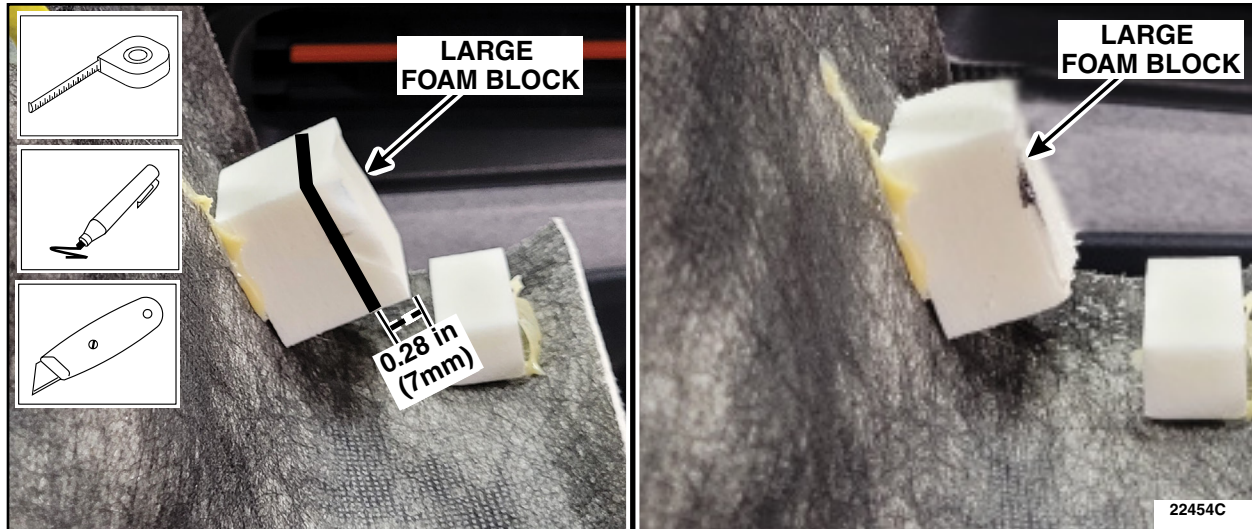

FIGURE 22
24. On both sides of the front of the headliner, locate the large foam block on the outboard edge of the headliner. Measure from the top of the foam block inward 0.28 in (7mm) and mark the foam block. Using a suitable tool cut from the marked area to the top of the foam block. See Figure 22.